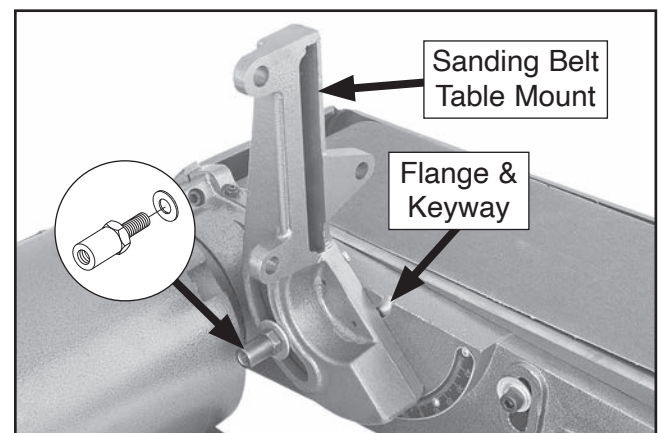

Figure 13. Sanding belt table mount installed.
2. Position sanding belt table mount against side of belt housing so semicircular flange fits in keyway, then secure with flat washer and lock bolt from **Step 1** (see **Figure 13**).